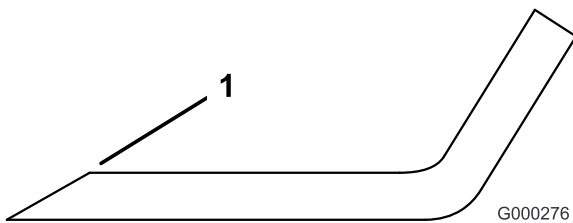

Figure 85
3. Examine the cutting edges of all of the blades and sharpen the cutting edges if they are dull or nicked (Figure 85).
Note: Sharpen only the top of the cutting edge and maintain the original cutting angle to ensure sharpness (Figure 85). The blade will remain balanced if the same amount of metal is removed from both cutting edges.